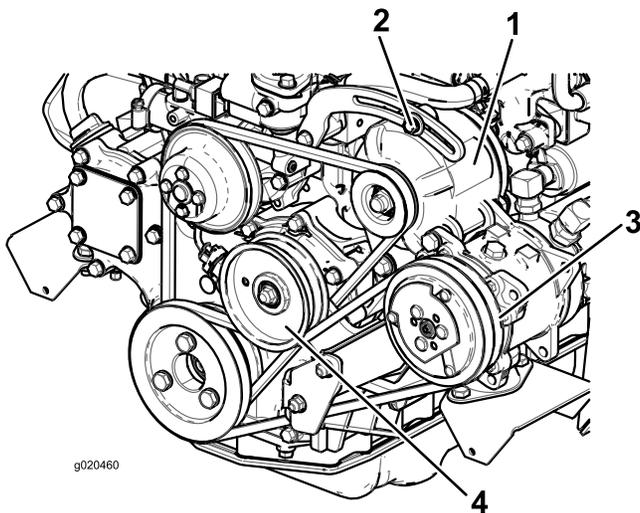

Figure 100
If the deflection is not 10 mm (3/8 inch), loosen the alternator-mounting bolts (Figure 100).
2. If the deflection is not 10 mm (3/8 inch), loosen the idler pulley mounting bolt (Figure 100).